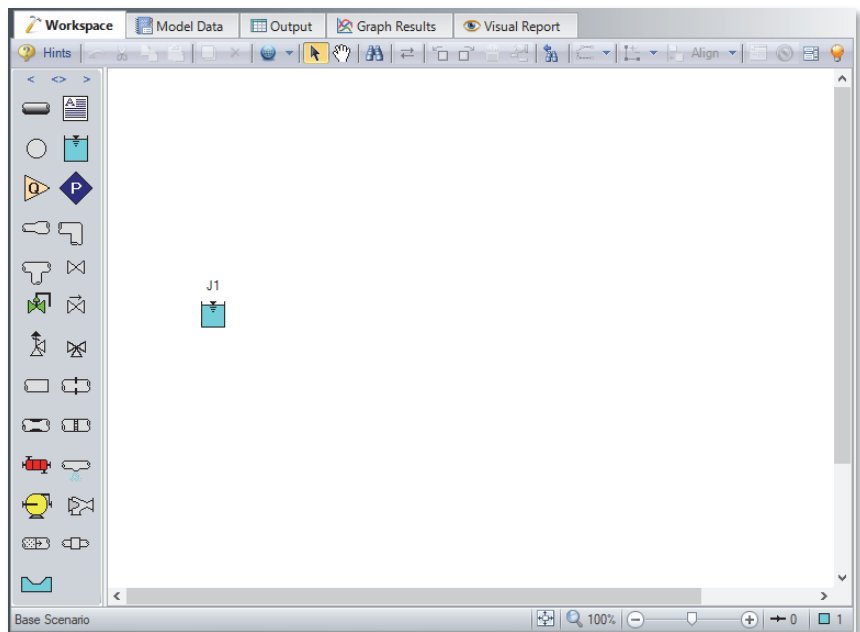

Figure 2.5a Walk through model with first junction placed
- **To start, drag a Reservoir junction from the Toolbox** and drop it on the Workspace. Figure 2.5a shows the Workspace with one reservoir.